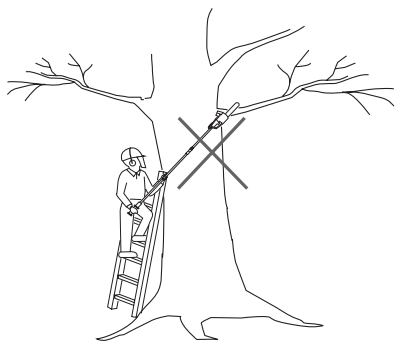

Fig. 37
8. Never stand on a ladder or other type of unstable support while using the product. Insecure stand invites hazards (Fig. 37).